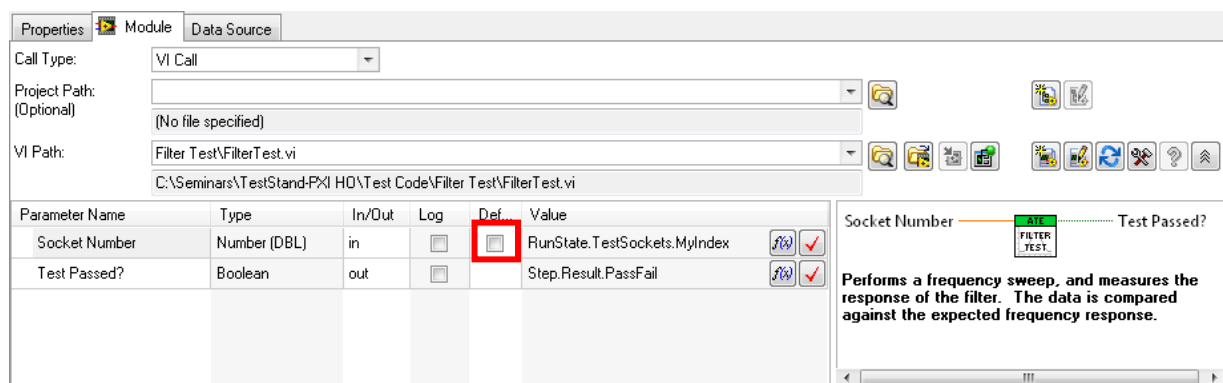

Figure 3-3. Configuring Code Modules to Display the Socket Number
- In the **Module** tab, uncheck the **Default** setting for the Socket Number parameter as per Figure 3-3